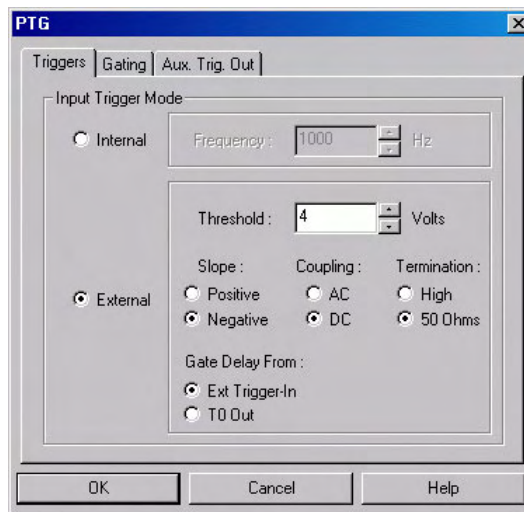

Figure 128. PTG Triggers tab page
3. Select **PTG**. Then click on the **Setup Pulser** button. The PTG dialog box (Figure 128) will open. *If PTG is grayed out on the **Pulsers** dialog box, PTG support has not been installed.*